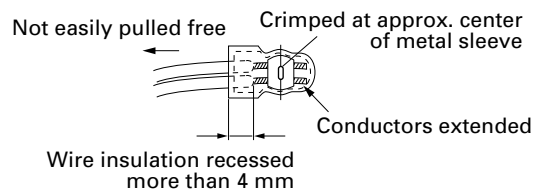

Fig.7
- (5) Check the four points noted in Fig.7.